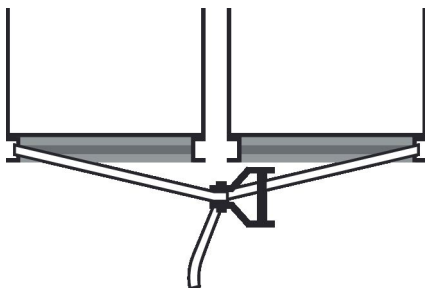

Fig. 13: Attaching a ratchet strap
1. ▶ Attach a ratchet strap to the base frames of two AHU casing units (Fig. 13).